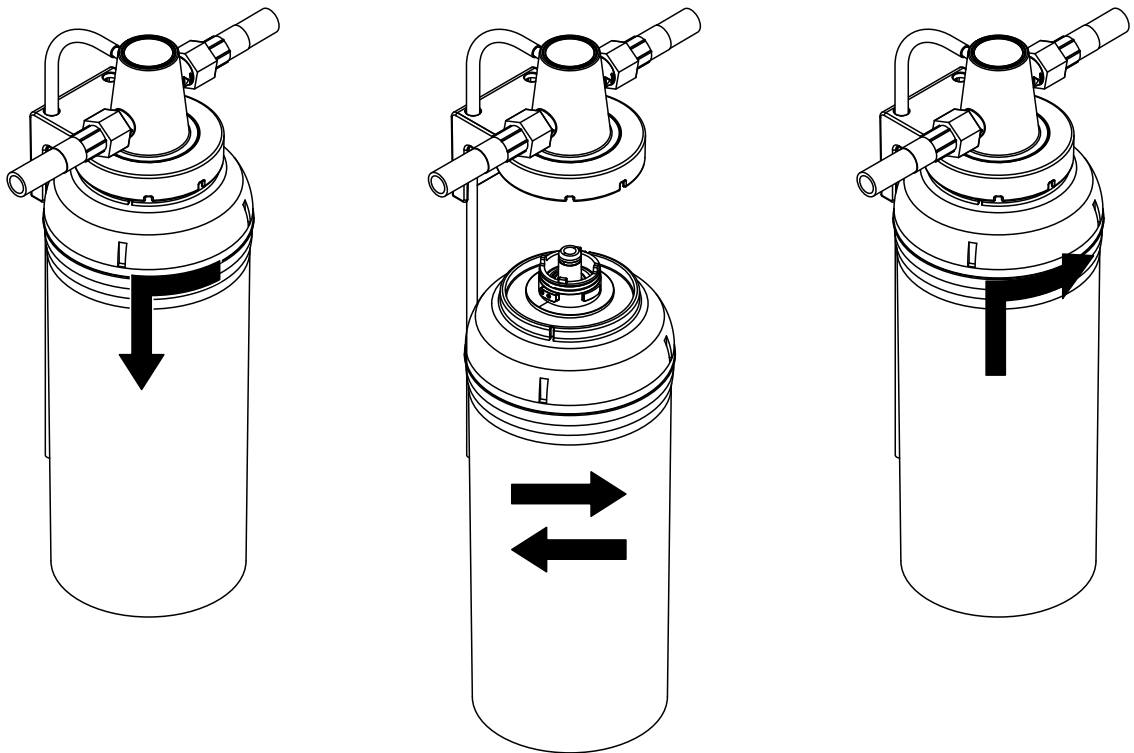

Fig. 13: Replacing the filter cartridge
5. Hold the filter cartridge firmly with both hands on the circumference, so that it does not fall down during removal. Then, carefully turn filter cartridge in the direction of the arrow as shown in Fig. 13 left until it comes to a stop (approx. 45 °) and remove filter cartridge.
8. Simultaneously push filter cartridge upwards and turn it until the filter cartridge engages into the bayonet catch in the filter head. Then, while slightly pushing the filter cartridge upwards turn filter cartridge in the direction of the arrow as shown in Fig. 13 right into the filter head until it comes to a stop (approx. 45 °).